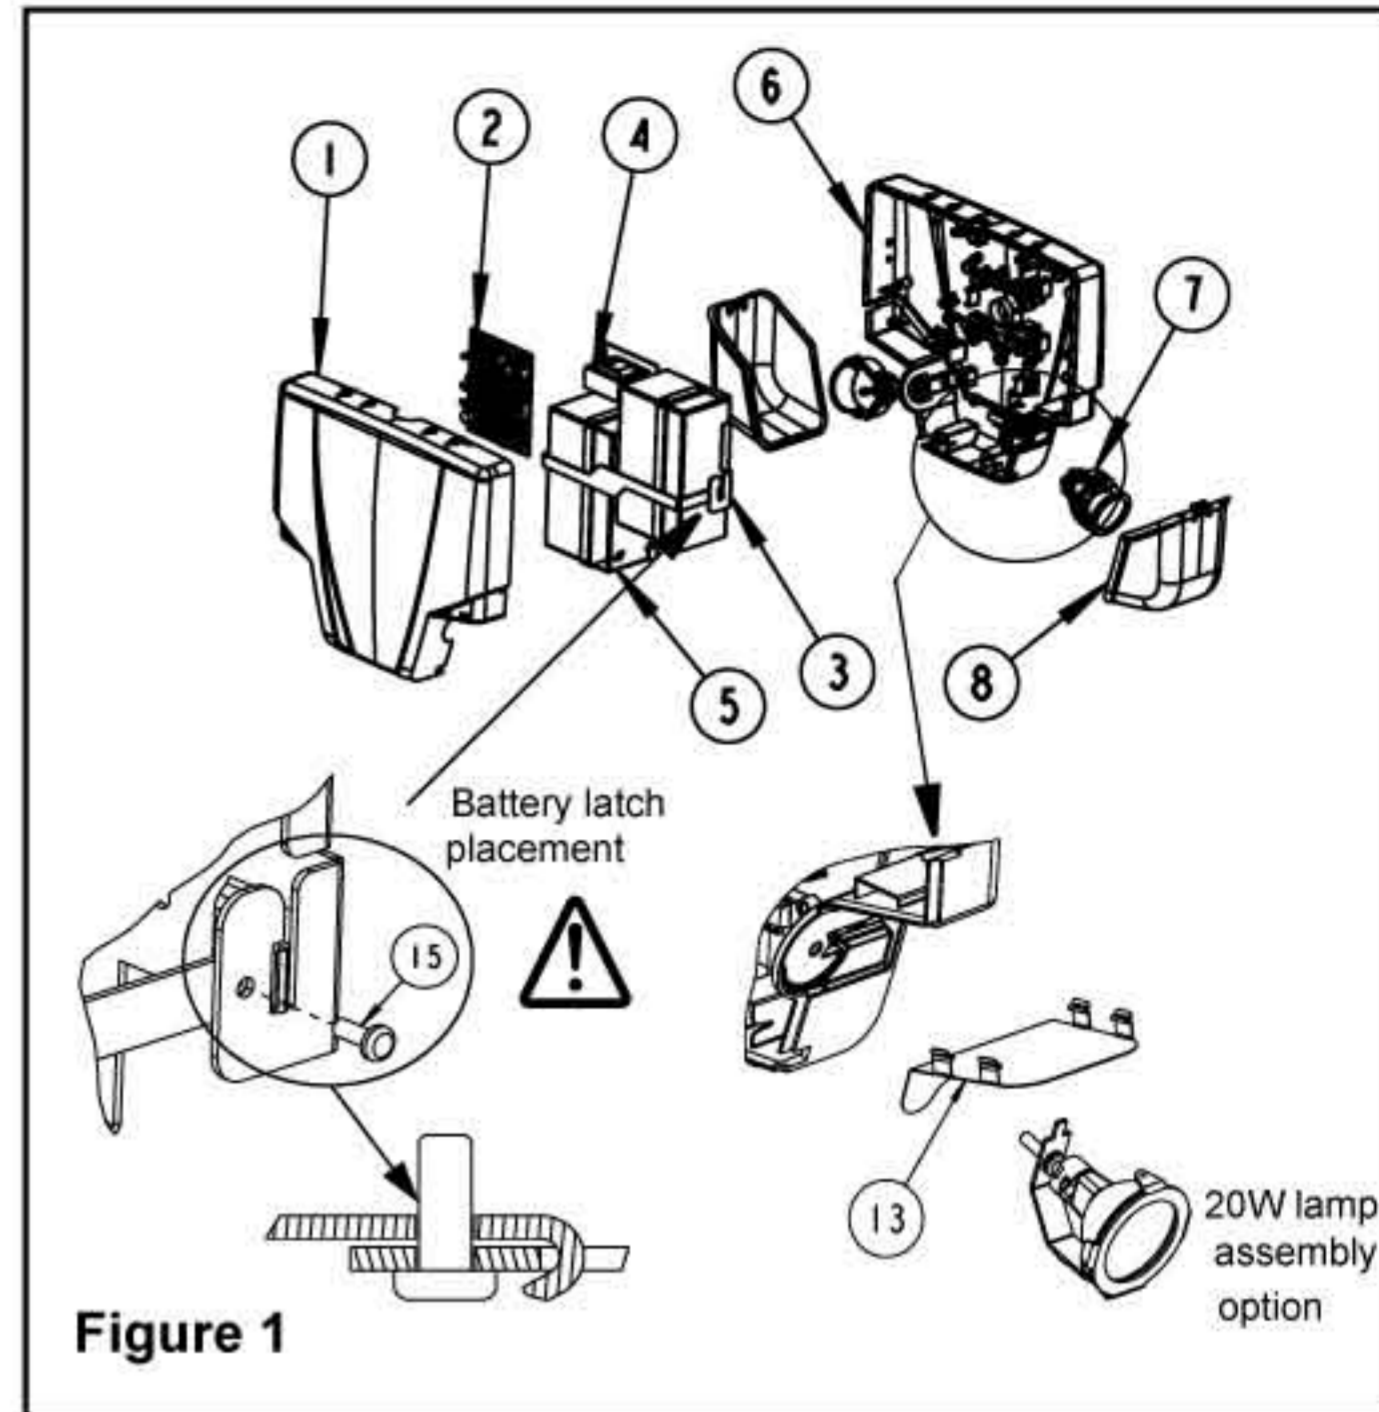
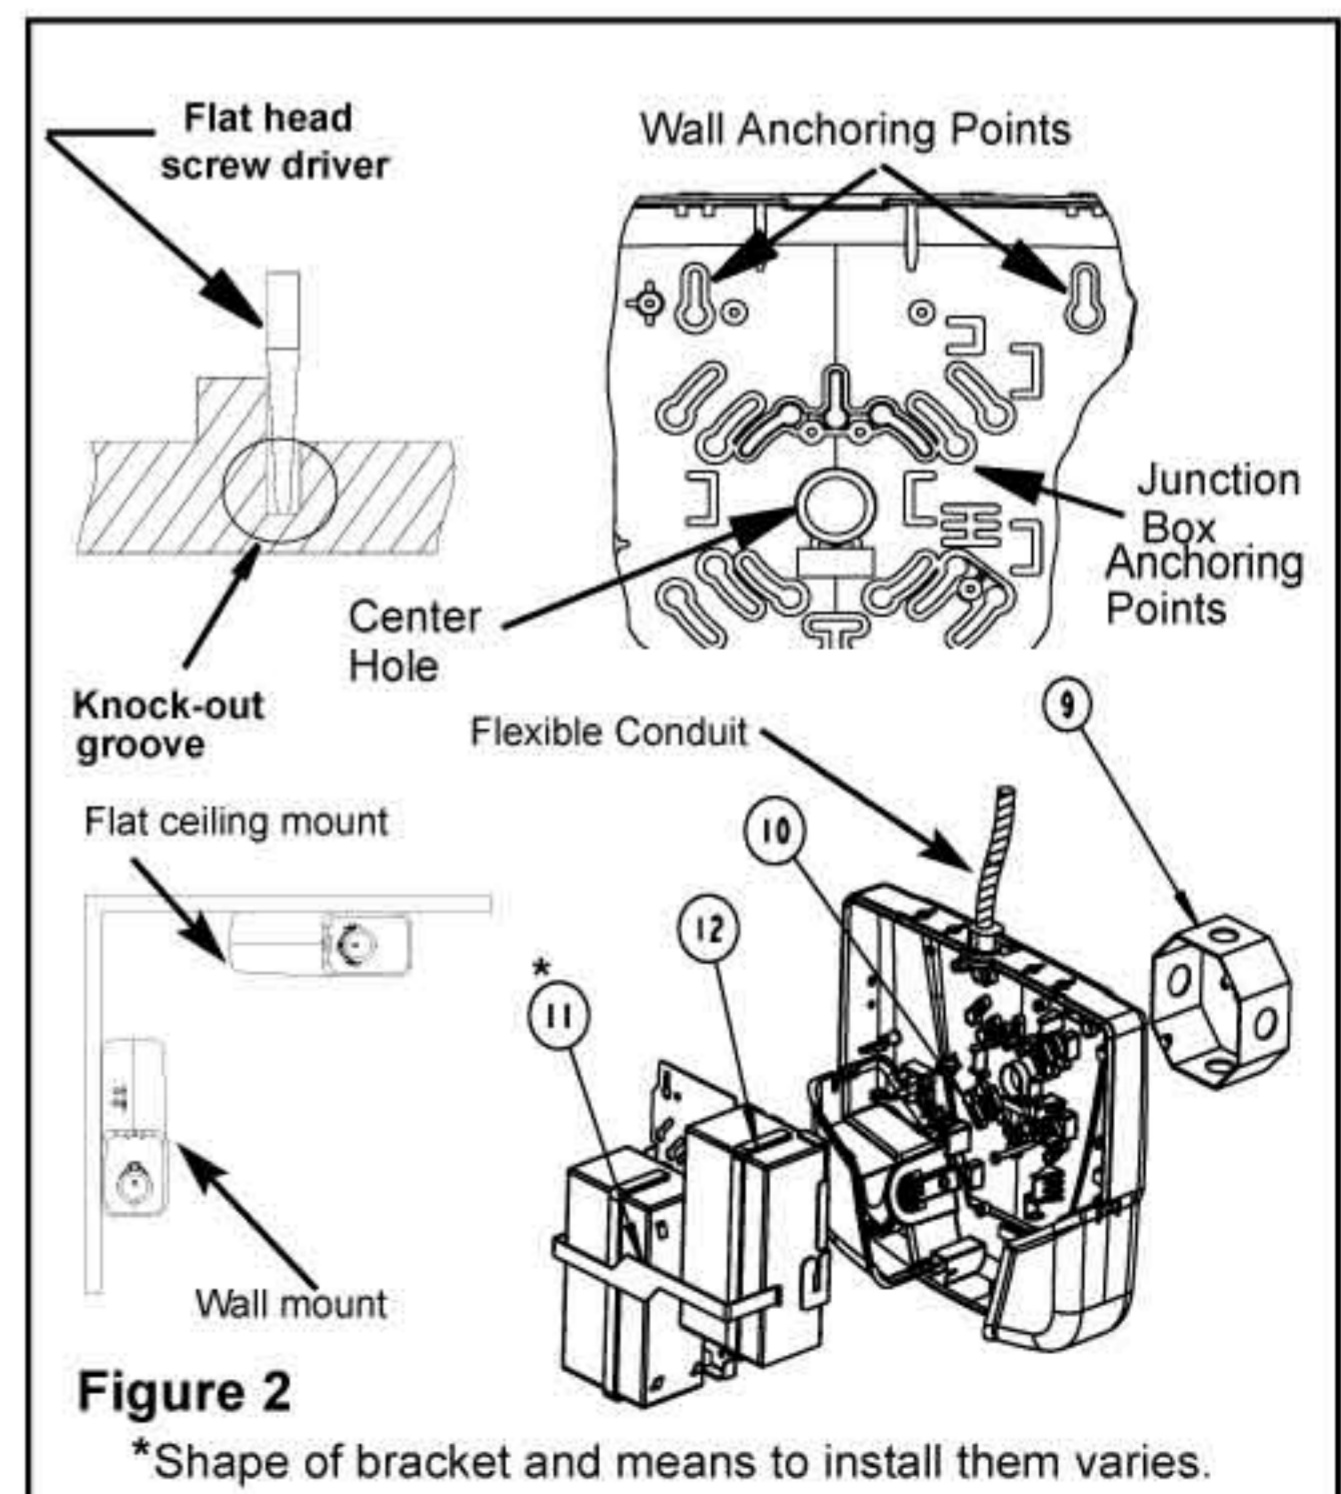

Figure 1
Figure 2
**Caution!** For models including battery support plate (3) it is critical to ensure that the hooked end of the bracket is properly latched to the battery support plate (see Fig. 1). Failure to do so can cause a serious injury.
3. Lay unit on a flat surface face up. Remove lenses (8) and heat shields (13) (for units with 20W lamps) (See Fig. 1) and leave lamps detached from the housing.
4. Remove the front cover (1).
5. Remove the battery support bracket (11) (See Fig.2) and battery(ies) and note how they are connected to reproduce this upon re-assembly.
1. Knock-out the proper hole pattern in the housing (6) to mount to a standard junction box (9) (See Fig. 2) according to the required orientation. To do so, it is recommended to place the unit on a flat solid surface with the back of the housing facing the surface. Prop up the unit on a roll of tape or other solid means to facilitate the removal of the knock-outs. Place the tip of a flat head screwdriver in the groove and knock out each detail with the help of a hammer (See Fig. 2).
2. Remove bubble wrap and install lamp assembly (7) (See Fig. 1).
3. Install means to anchor unit in line with "Wall anchoring points" (see Fig. 2). This is recommended for a more secure installation.
Follow same steps as outlined for Wall Mounting. No canopy is required. (See Fig.2.)
Remove knock-out for the conduit entry located on the top of the housing (See Fig. 2).